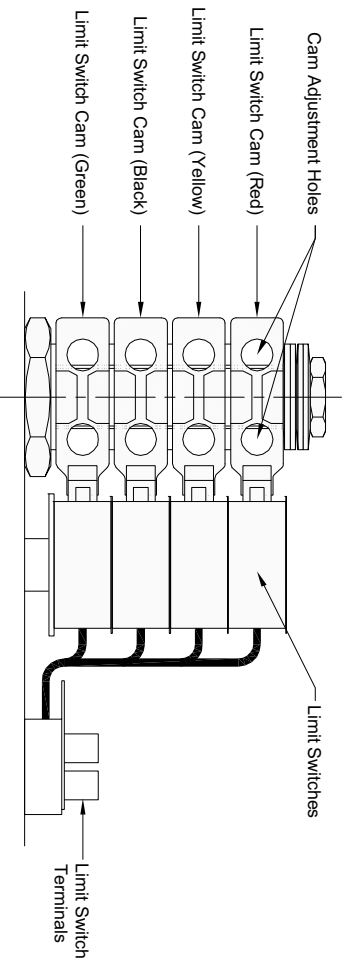

Fig. 1
2. Manually operate the door & adjust the limit switches so that they correspond to the position (see Fig. 1).